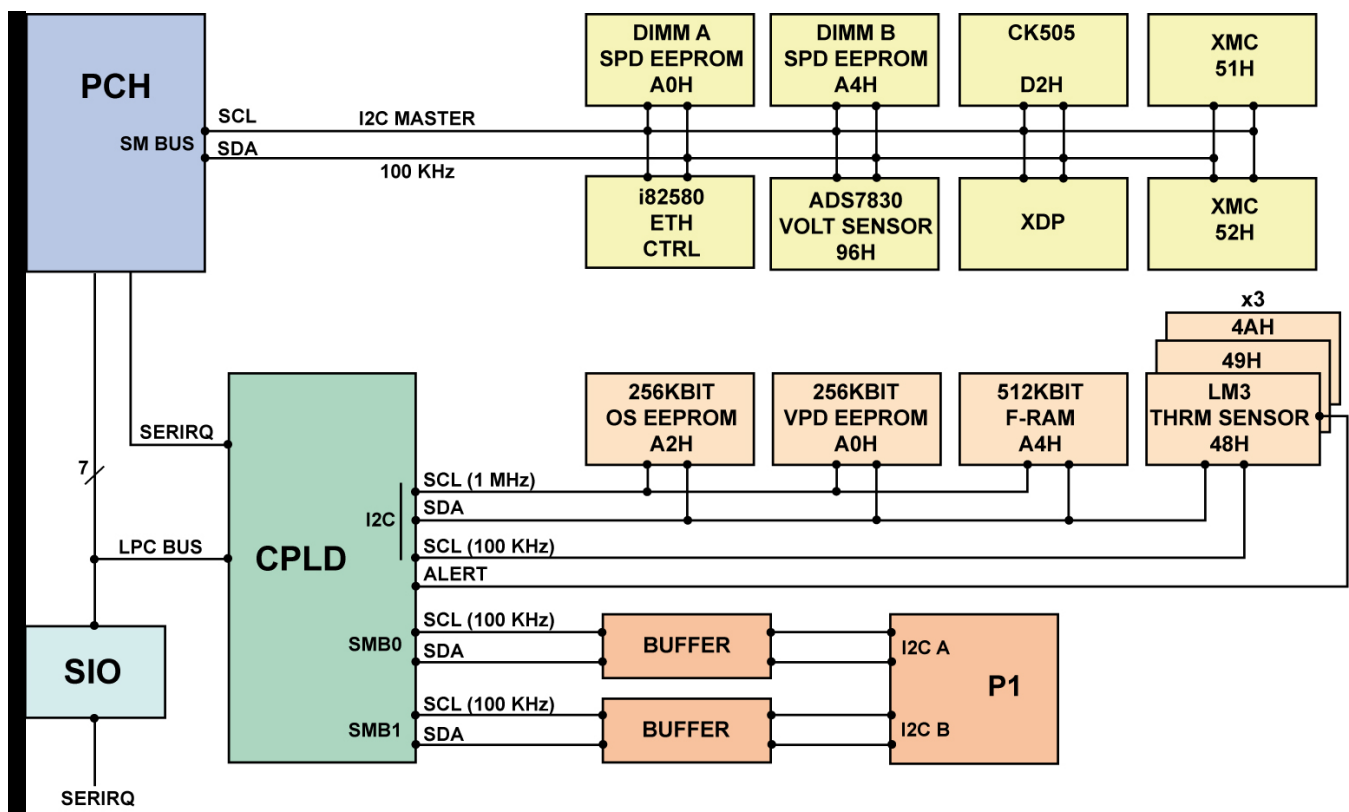

Figure 29: I2C Diagram
- The remaining i2C busses are handled by the CPLD device according Figure 29 "I2C Diagram".